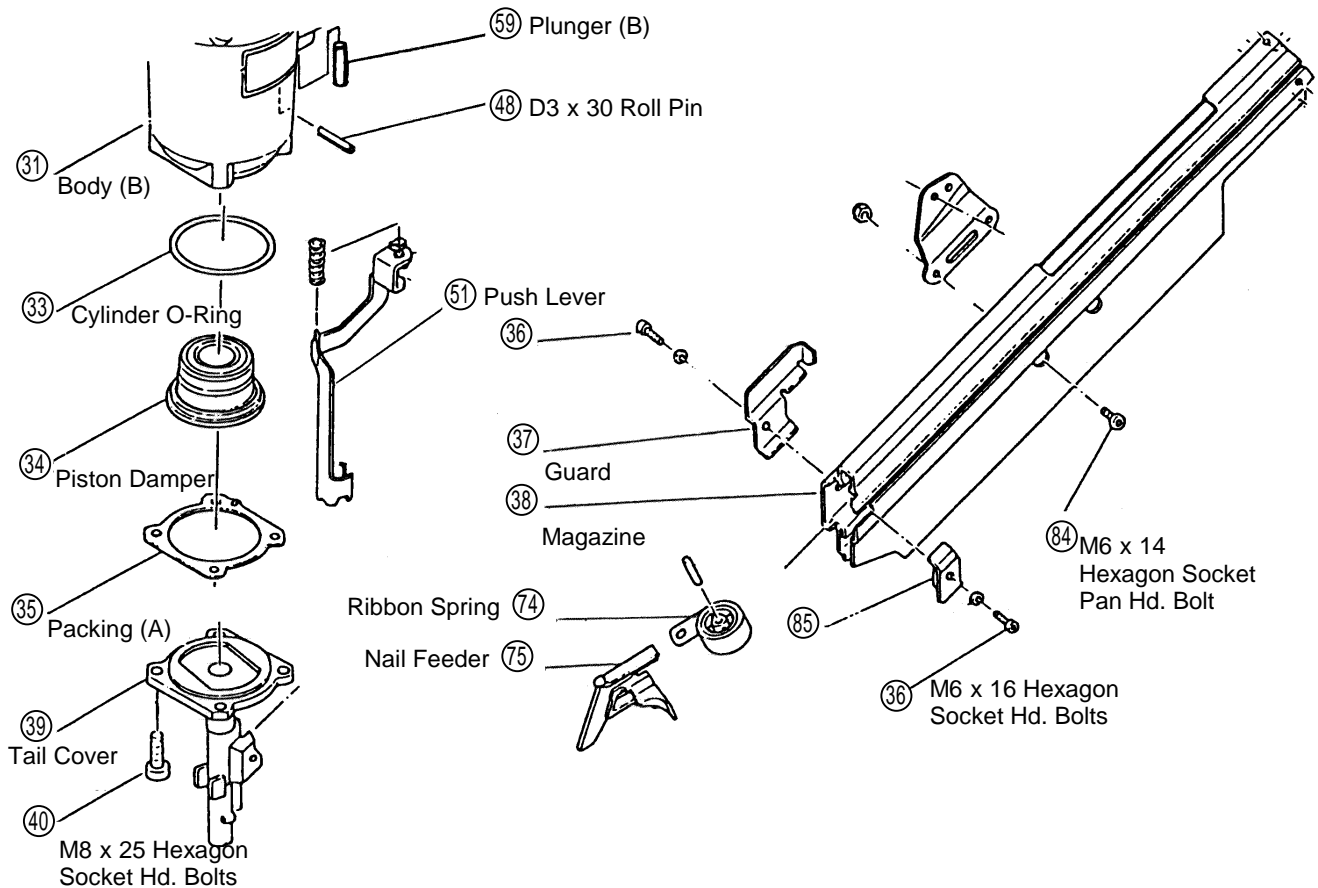
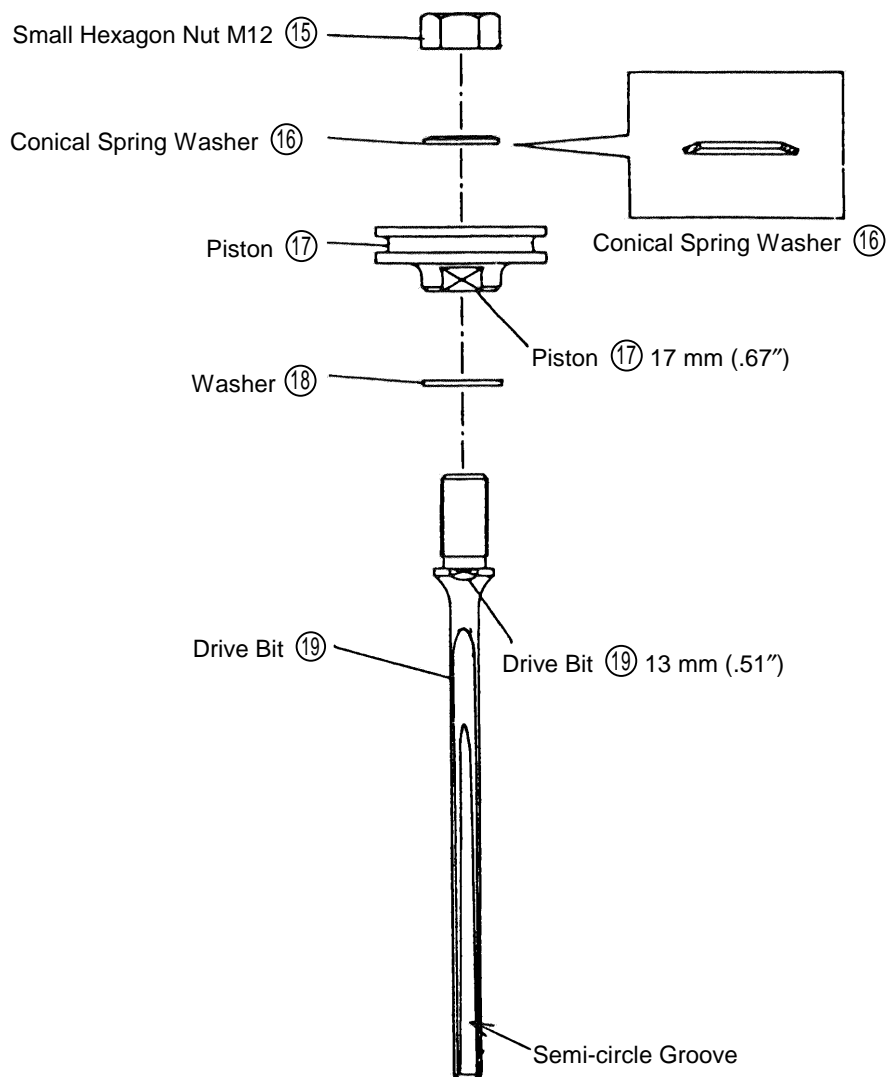
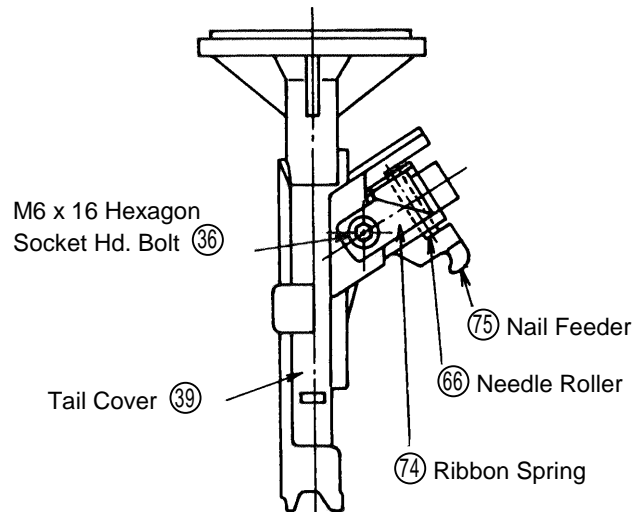

Fig. 7 Disassembly and Reassembly of the Piston Damper, Packing (A), etc.
Fig. 12
Fig. 16 Mounting of the Nail Feeder
- Ensure that the Piston Ass'y ①④ is positioned so its semicircular groove faces toward the Magazine side (see Fig. 12 below).
- Plunger (B) ⑤⑨ may drop out during disassembly. Ensure it is properly assembled.
- Assemble the Body (B) ③①, Tail Cover ③⑨, and Magazine ③⑧ in the following manner:
- I) With the Push Lever ⑤① properly mounted on the Tail Cover ③⑨ as illustrated in Fig. 7, assemble the Tail Cover ③⑨ to the Body (B) ③① with the four M8 x 25 Hexagon Socket Hd. Bolts ④①, and tighten them to rated torque (see Para. 1-4).
- II) Connect the Push Lever ⑤① to the Body (B) ③① with the D3 x 30 Roll Pin ④⑧.
- III) Temporarily attach the Ribbon Spring ⑦④ and Nail Feeder ⑦⑤ to the Tail Cover ③⑨ with the M6 x 16 Hexagon Socket Hd. Bolts ③⑥ (please note that this step is not necessary if the front-side M6 x 16 Hexagon Socket Hd. Bolt ③⑥ was only loosened and not fully removed during reassembly [refer to Fig. 16]), and assemble the Magazine ③⑧ (refer to Para. 1-3-(1).
(a) Disassembly: (Refer to Fig. 12)
- As illustrated in Fig. 16, temporarily fix the Ribbon Spring (74), Needle Roller (66) and Nail Feeder (75) onto the Tail Cover (39) with the front-side M6 x 16 Hexagon Socket Hd. Bolt (36), and slide the Magazine (38) onto the Tail Cover (39). Then, secure the assembly by tightening the M6 x 16 Hexagon Socket Hd. Bolt (36) on the Guard (37) side and the two M6 x 14 Hexagon Socket Pan Hd. Bolts (84) to rated torque (see Para. 1-4.).
(2) Stop Lever (82), Stopper Spring (80), and Related Parts: